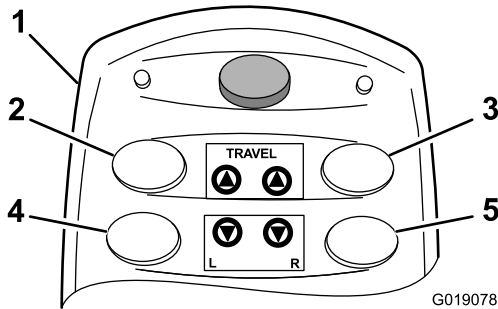

Figure 42
- To move the machine **forward**, press and hold the left, forward-traction button and the right, forward-traction button (Figure 42).
- To move the machine **backward**, press and hold the left, reverse-traction button and the right, reverse-traction button (Figure 42).
- To turn the machine **left**, press and hold the left, reverse-traction button and the right, forward-traction button (Figure 42).
- To turn the machine **right**, press and hold the left, forward-traction button and the right, reverse-traction button (Figure 42).